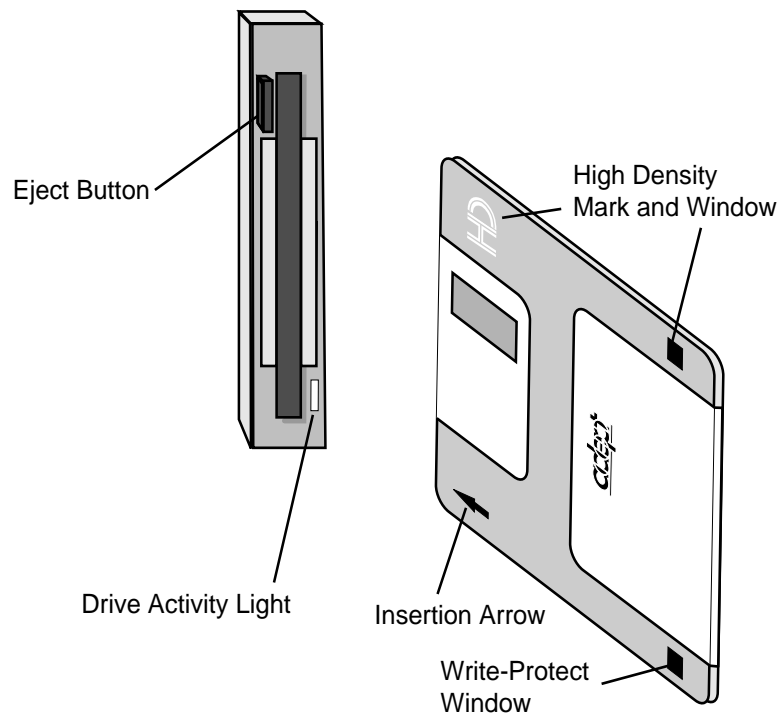

Figure 5-2. Inserting a Standard 3-1/2" Floppy Disk
The internal floppy drive uses either 3.5" HDDS or 3.5" DDDS hard-jacketed floppy disks. HDDS (High-Density, Double-Sided) disks have twice as many sectors as DDDS (Double-Density, Double-Sided) disks. High-density disks are marked with the HD symbol and have an extra window opposite the write-protect window (see Figure 5-2).1
Figure 5-2 shows a standard 3-1/2" floppy disk. If the write protect window on the front of the disk is open, the disk is write protected. Any attempt to store or delete files on a write-protected disk will result in the error:
To insert a disk, place the disk in the drive slot as shown in Figure 5-2 and seat with slight finger pressure. To remove a disk, press the eject button. This will eject the disk from the drive.
**CAUTION:** When the drive activity light is lit (see **Figure 5-2**), indicating that the drive is being accessed, do **not** attempt to remove the disk. Damage to the disk drive and loss of data may occur if a disk is removed during a disk access.
High-density disks are marked with the “HD” symbol and have an extra hole opposite the write-protect window (see **Figure 5-2**). High-density disks can be formatted only as high-density disks. Double-density disks can be formatted only as double-density disks.